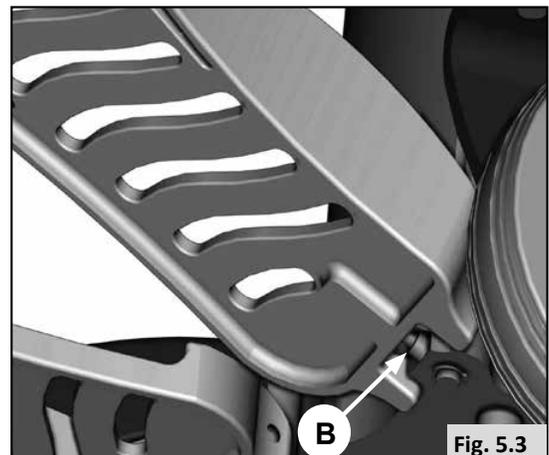

Fig. 5.3
- Flip up the footplate so that you can reach the angle setting screw (B), Figure 5.3.